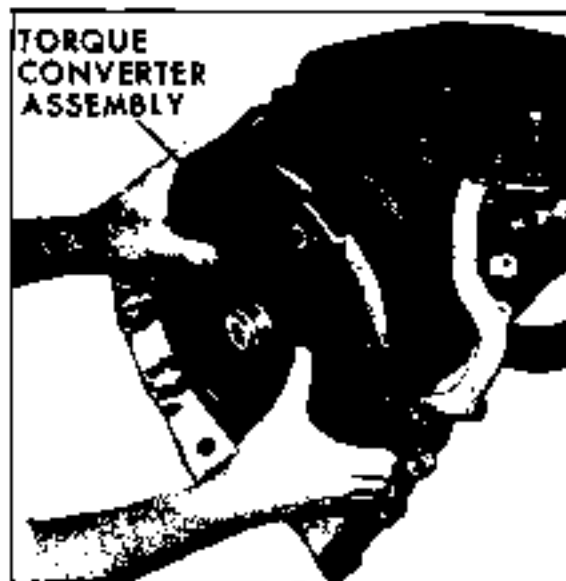

Fig. 7G-125 Installing Converter Assembly
3. Install converter assembly into transmission, making certain that converter hub drive slots are fully engaged with oil pump drive gear tangs and converter is installed fully towards rear of transmission (Fig. 7G-125).